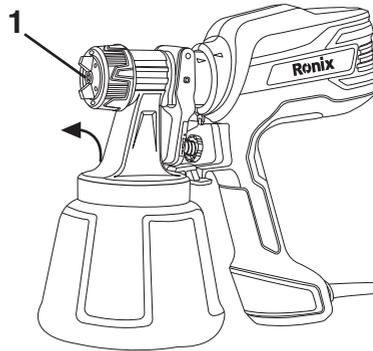

Fig. 5
Danger of injury! Never pull the trigger guard while adjusting the air cap. Turn the air cap (1) to the desired spray setting position. (Fig. 5)